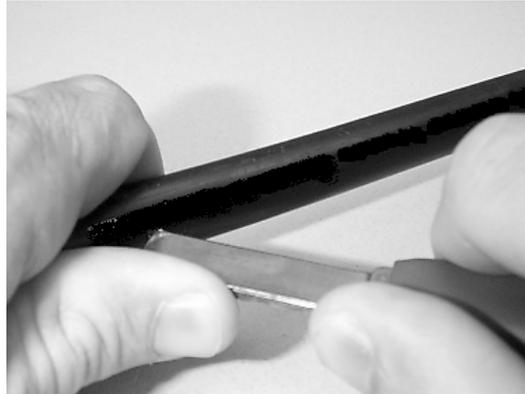

Figure 4 - Make a longitudinal cut at the end of the cable.
4.5 Make a longitudinal cut between the second ring cut and the end of the cable (Figure 4).